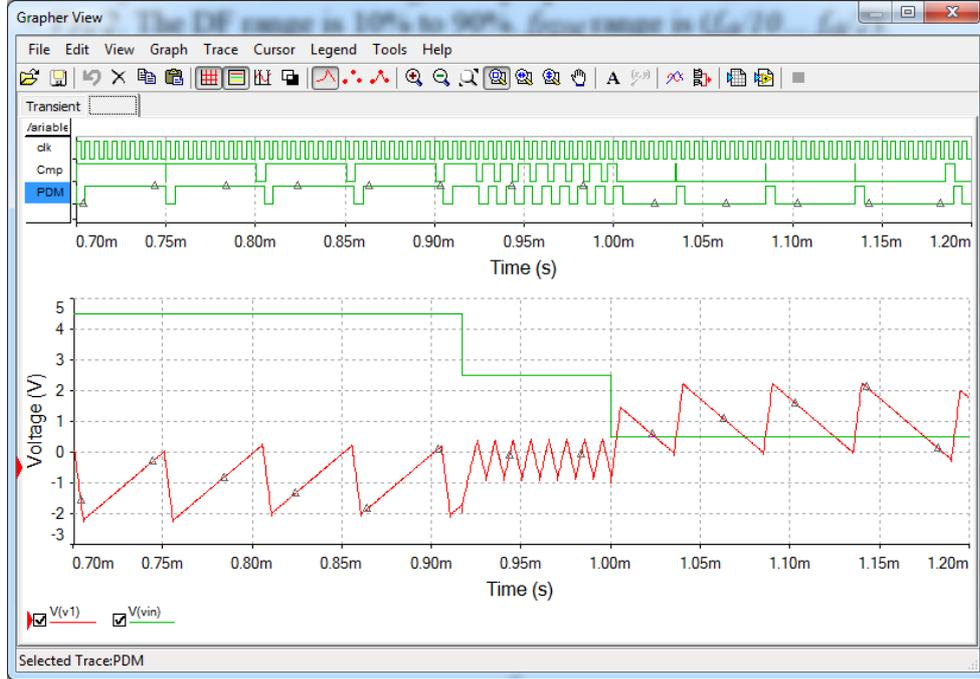

Figure 8.5. Charge Compensated Modulator simulation – constant V_{in}
- V_I becomes negative immediately after an active edge of ck (see $V(V_I)$ in Figure 8.5, the slope beginning at time 750 μ s), and
- V_I becomes positive immediately after an active edge of ck (see $V(V_I)$ in Figure 8.5, the slope beginning at time ~ 1.08 ms), and